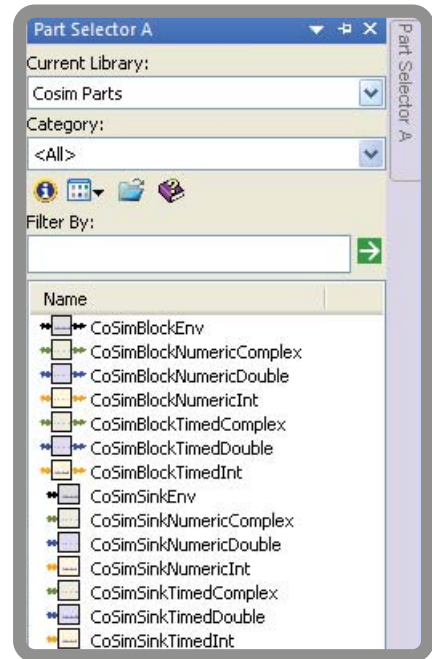

Figure 6. Shown here is the SystemVue co-simulation palette, after installation.
- Run SystemVue, if it is not currently running. Use the SystemVue Library Manager to enable the cosim.dll file. You should now have a new library called “Cosim Parts” in the Parts Selector window (Figure 6).